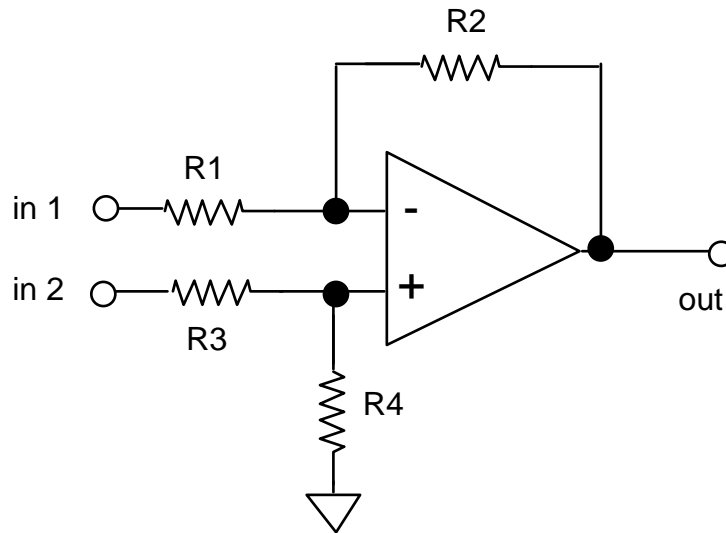

Figure 7-6 Differential Amplifier
} The circuit in Figure 7-6 is a differential amplifier.
- \* Connect the circuit in Figure 7-6, using resistor values